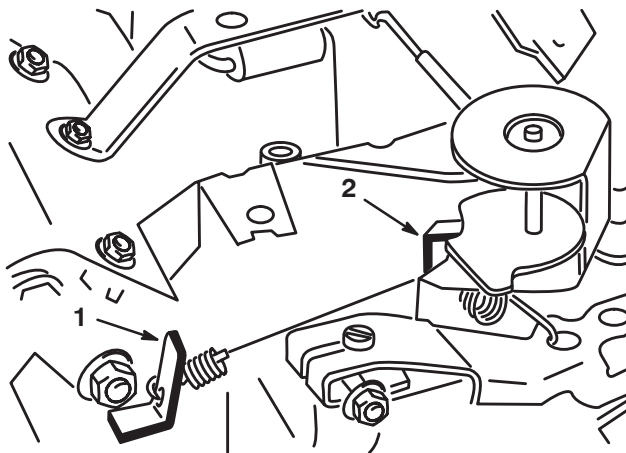

Figure 18
3. Bend the governed idle spring anchor tang (Fig. 18) to attain an idle speed of 1750 ± 50 RPM. Check the speed with a tachometer.
5. Move the throttle control to the Fast position. Bend the high speed spring anchor tang (Fig. 18) to attain a high speed of 3150 ± 50 RPM.